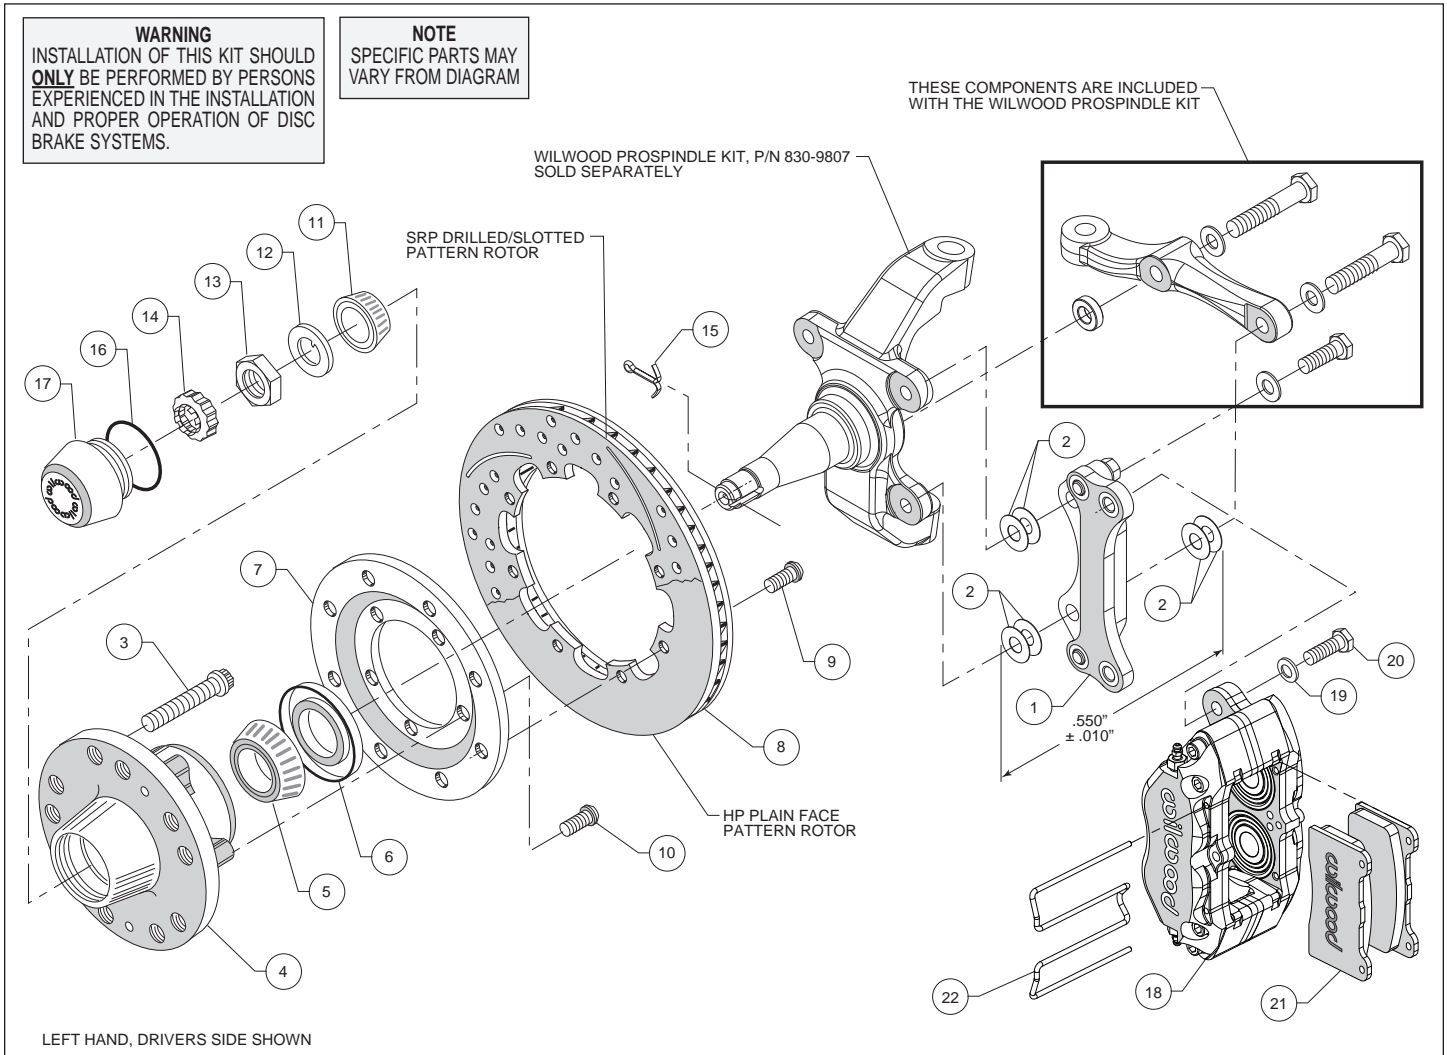
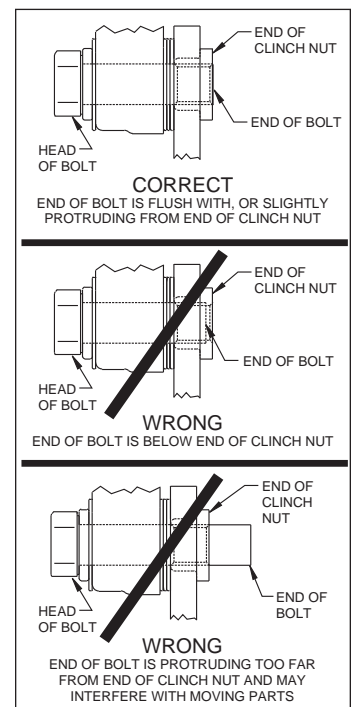

Figure 1. Typical Installation Configuration
Figure 3. Clinch Nut Engagement Diagram
Assembly Instructions (numbers in parenthesis refer to the parts list and Figure 1 on the preceding pages): **CAUTION:** All mounting bolts must fully engage insert nuts. Be sure to check that all bolts are either flush or protruding through flanged side of insert nut after shimming, Figure 3. **NOTE:** Rear hole refers to the part of the spindle that would be facing the back of the vehicle, front is facing the front of the vehicle.
- The caliper mounting bracket assembly (1) in conjunction with the Wilwood ProSpindle (P/N 830-9807, includes three mounting bolts, three washers, and a spacer, kit sold separately) should be installed first with clean, dry threads on the mounting bolts as follows:
- Install the bracket on the inboard side of the spindle by sliding the 1.25" long bolt from the ProSpindle kit through a flat washer, also from the ProSpindle kit, through the top hole of the caliper mounting bracket and into the upper rear spindle mounting ear hole, as shown in Figure 1. Initially place two .016" thick shims (2) on top bolt between the bracket (1) and the spindle. Do not tighten at this time.
- Slide the 2.00" long bolt from the ProSpindle kit through a flat washer, through the rear (thinner end) hole on the steering arm, through bottom hole of mounting bracket (1), and into the lower rear spindle mounting hole. Initially place two .016" thick shims (2) on bottom bolt between the bracket and the spindle, and another two .016" thick shims (2) between bracket and steering arm, Figure 1. The bracket is positioned between the steering arm and the spindle for the bottom bolt installation. The bracket and shim washers for the lower rear mounting must be a thickness of $.550 \pm .010$ ". Do not tighten at this time.
- Finish installing the steering arm assembly by sliding the 2.25" long bolt through flat washer, then through the front (thicker end) hole of the steering arm. Place the .25" thick spacer between the steering arm and the backside of the spindle. Snug all three bolts. The bracket must tighten squarely against the inboard side of the caliper mounting bosses on the spindle body. Inspect for interference from casting irregularities, machining ridges, burrs, etc. **NOTE:** Be sure the heads of the caliper bracket (1) insert nuts are facing outward toward the wheel.
- Install wheel studs (3) into the hub (4), Photo 1. Torque to 77 ft-lb. **NOTE:** There are two lug patterns of five holes each in the hub (5×4.50 and 5×4.75). Ensure the correct hub stud pattern is being used to fit the wheel application.
- Pack the large inner bearing cone (5) with high temperature disc brake bearing grease (available from your local auto parts store) and install into the backside of the hub (4), Photo 2.
- Install the grease seal (6) by pressing into the backside of the hub (4), Photo 2.
- Orient the rotor (8) and the rotor adapter (7) as shown in Figure 1 and Photo 3. Attach the rotor to the adapter using bolts (9). Using an alternating sequence, apply red *Loctite*® 271 to the threads, and torque to 25 ft-lb.
- Mount the adapter/rotor assembly (7/8) to the hub (4) using bolts (10), as shown in Figure 1 and Photo 4. Using an alternating sequence, apply red *Loctite*® 271 to the threads, and torque to 55 ft-lb.
- NOTE:** Please reference the caution statement at the beginning of the assembly instructions. Mount the caliper (18) onto the caliper mounting bracket (1) using bolts (20) and washers (19), as shown in Figure 1. Temporarily tighten the mounting bolts and view the rotor (8) through the top opening of the caliper. The rotor should be centered in the caliper, Photo 7. If not, adjust the caliper mounting bracket (1) by using 0.016 inch thick shims (2) placed between the caliper mounting bracket and the spindle, or between the spindle and the steering arm, whichever is applicable to gain the proper caliper/rotor alignment. Always use the same amount of shims on each of the two mounting bolts. **NOTE:** The end of each bolt must be flush with or slightly protruding from the head of the clinch nut, as shown in Figure 3. If necessary place spare shims between washer (19) and caliper mounting ear to achieve the proper clinch nut engagement. Once the caliper alignment and clinch nut engagement are correct, remove the bolts one at a time, apply red Loctite® 271 to bolt threads, and torque to 40 ft-lb.
- Install the disc brake pads (21) into the caliper, with the friction material facing the rotor (8), and secure in place using the pad clip retainer (22), Photo 8.